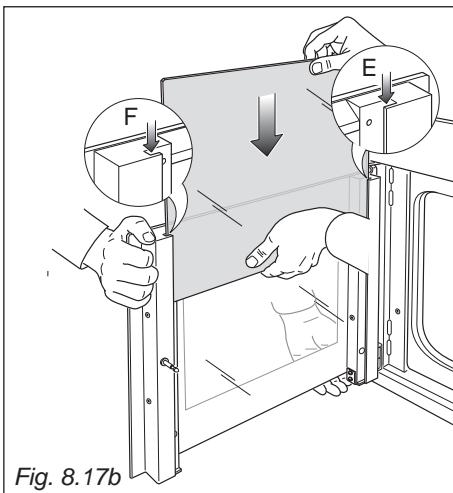
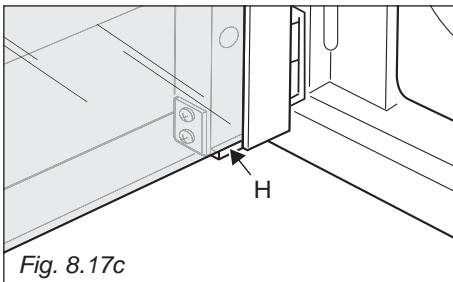

Fig. 8.17b
Fig. 8.17c
- Whilst one person holds the door still, a second person should insert the inner pane in the left "E" and right "F" side guides (fig. 8.17b) and gently let it slide up to the retainers "H" (fig. 8.17c). Forcible replacement of the door glass may lead to damage of the door hinges.